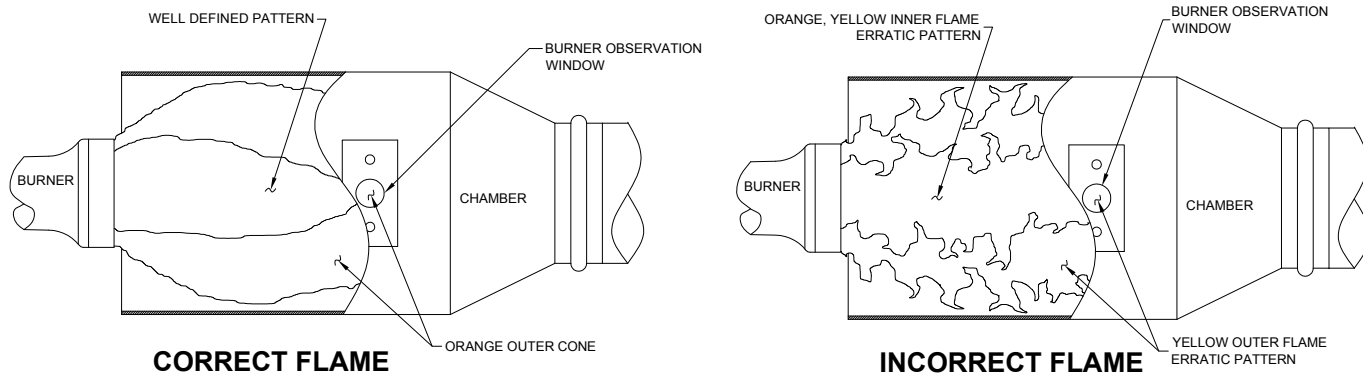

Figure 17
1. Remove cabinet front. Remove four (4) screws from left and right side panels; set aside for reinstallation.
- a) Remove four(4) screws from condenser housing braces. (see "A" figure 17) Set braces aside for reinstallation.
- b) Remove condenser coil cover- (2) additional screws. (see "B" figure 17) Set aside for reinstallation.